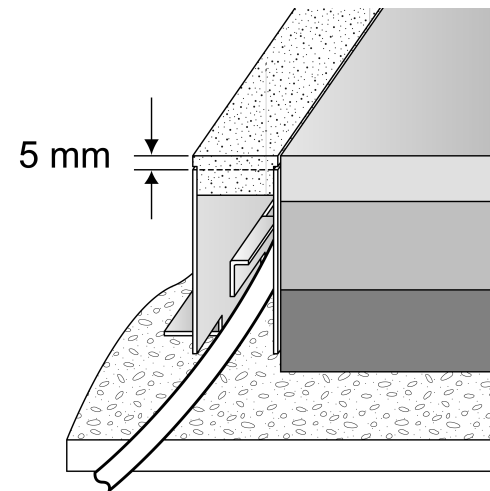

Figure 7
- Place the mounting aid (5) on the frame.
- Fasten the mounting frames with screws (9) and plugs or with bounding compound.
- The installed luminaire exceeds the upper edge of the frame by 5 mm . The upper edge of the floor after finishing must therefore also exceed the frame by 5 mm(Figure 7).